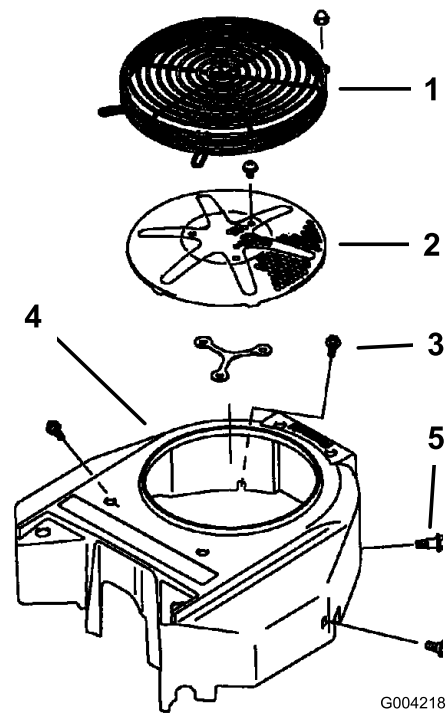

Figure 72
Before each use remove any build-up of grass, dirt, or other debris from the engine screen. This will help ensure adequate cooling and correct engine speed and will reduce the possibility of overheating and mechanical damage to the engine (Figure 72).
3. Remove the air intake screen, recoil starter, and fan housing (Figure 72).
5. Install air intake screen, recoil starter, and fan housing (Figure 72).